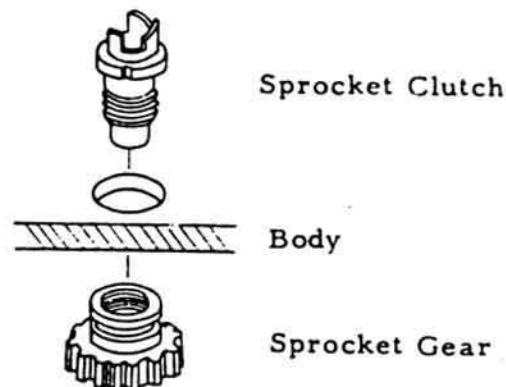

Fig. 1
- 2) Install the parts as shown in Fig. 1.